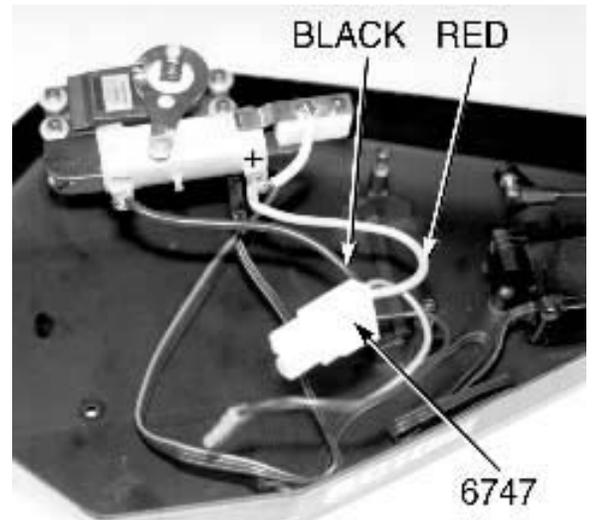
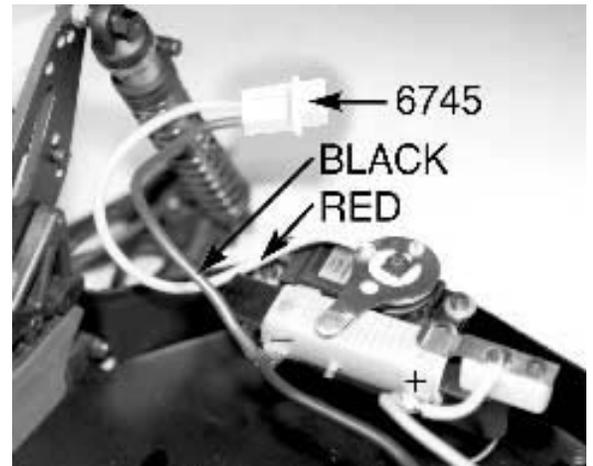

Fig. 176
Fig. 177
(3) Next remove the #6747 battery input power harness (with B.E.C. plug). Solder the large red wire to the positive tab on the throttle resistor. Now solder the large black wire to the negative tab on the same throttle resistor Fig. 176 shows this harness installed on the throttle resistor. (4) The last harness we need is the #6745 motor output plug. For this plug we will solder the red wire to the #6712 brass wiper arm on the servo. We will then solder the black wire to the negative tab on the left side of the throttle resistor. Fig. 177 shows this harness plug installed. Now connect the #6745 motor output plug to the motor plug that is soldered onto the motor. Your mechanical throttle control is now assembled and installed. We will check the setup and make any adjustments in the final adjustments section later in the manual.